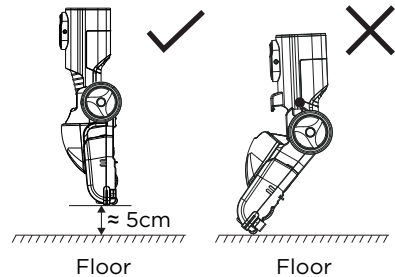

Fig. 7
1. Choose a suitable location for the wall bracket away from areas where it will get wet or knocked and close to a socket outlet. Check that the charge cable will reach the mains socket (180cm distance max) and that there is sufficient space above and below the bracket (approx.125cm below) for the fully assembled vacuum cleaner to be inserted. No part of the vacuum cleaner should touch the floor when fitted into the bracket (fig 7).